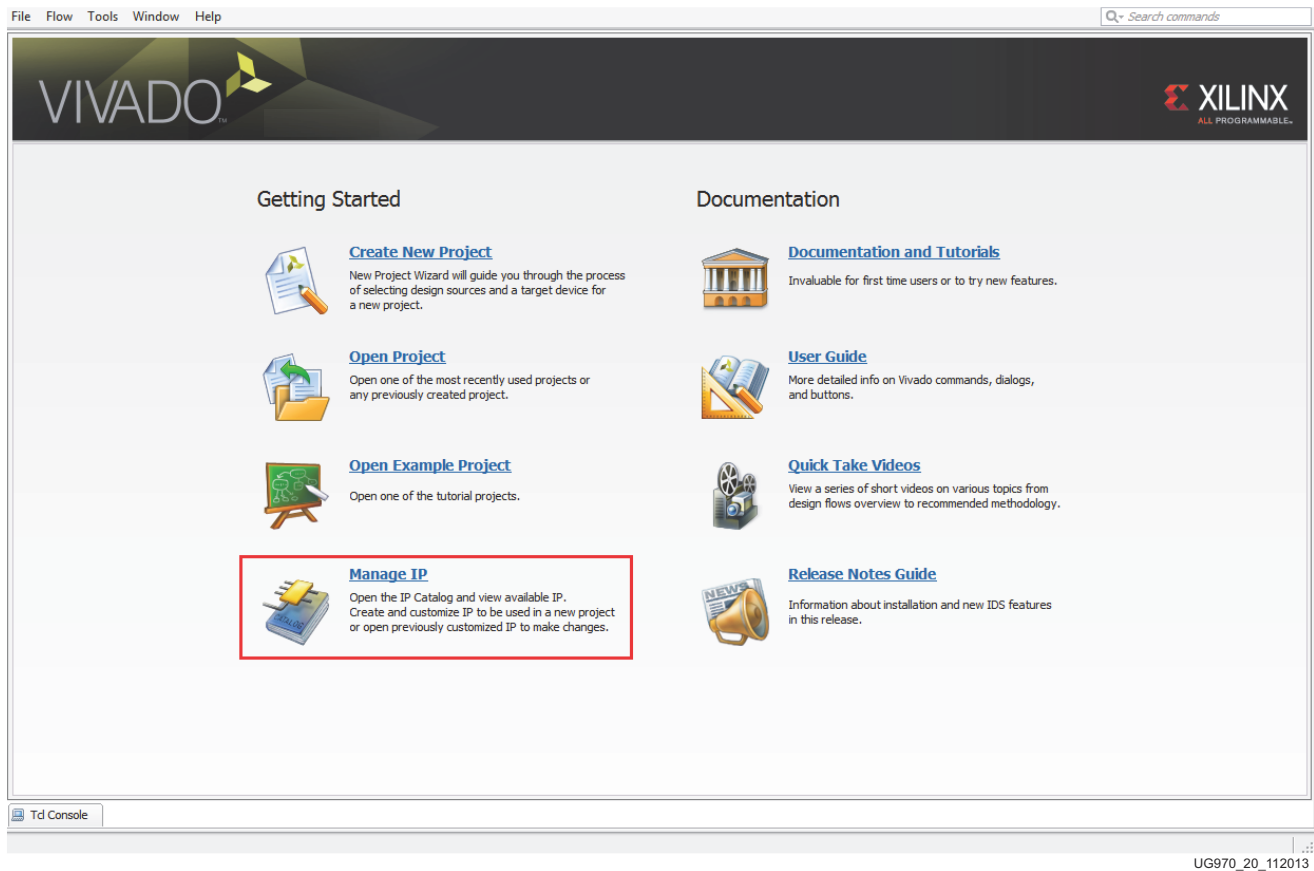

Figure 1-20: Initial Window, Vivado Design Suite
2. In the Vivado window, click the **Manage IP** icon highlighted in Figure 1-20, then select **Open IP Catalog**.